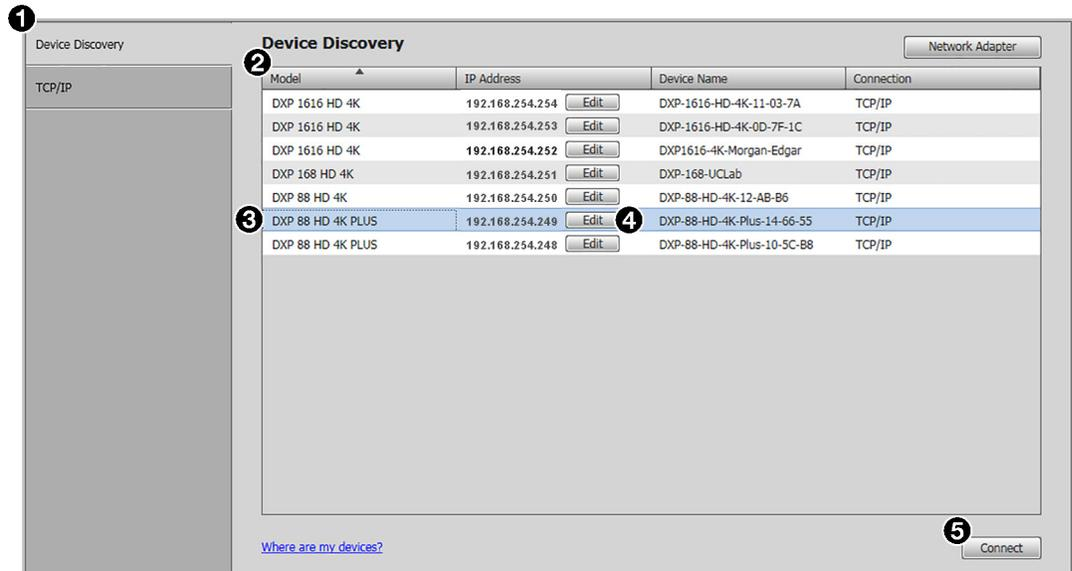

Figure 37. Device Discovery Panel
1. Click the **Device Discovery** tab (see figure 37, ❶).
2. Click the desired column heading (❷) to sort the category in ascending or descending order.